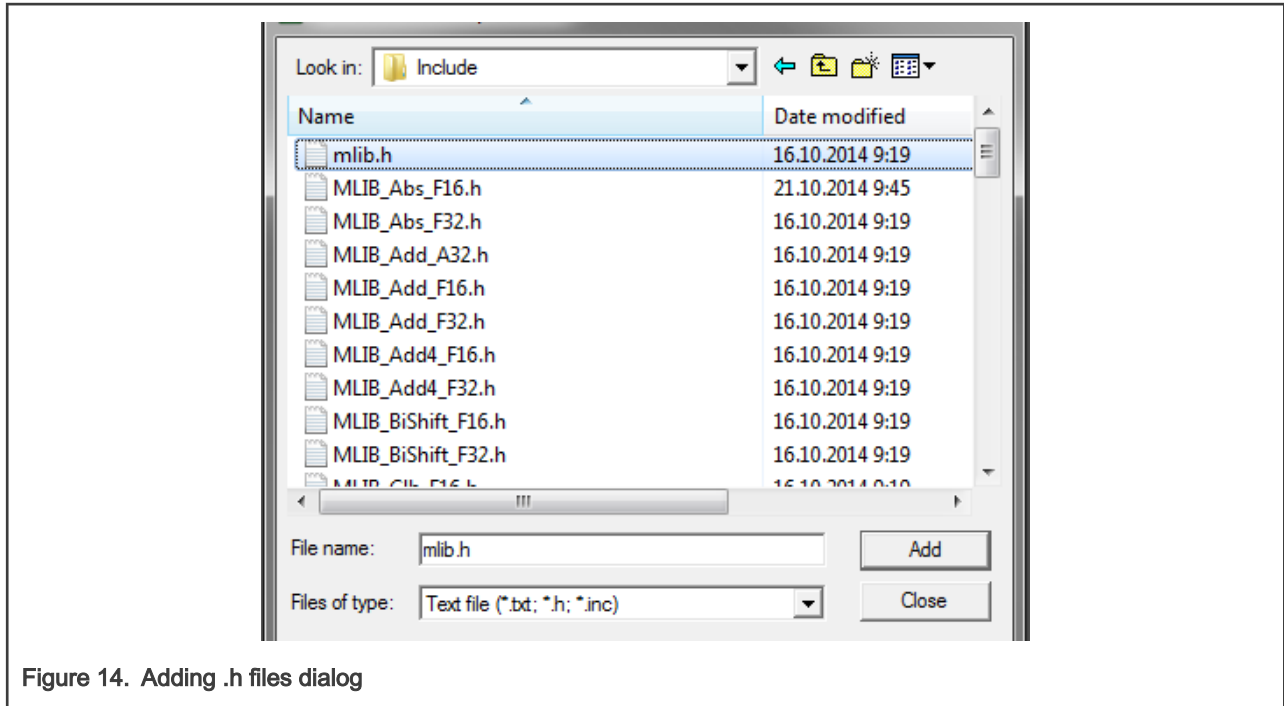

Figure 14. Adding .h files dialog
4. Navigate into the library installation folder C:\NXP\RTCESL\CM7\_RTCESL\_4.7\_KEIL\MLIB\Include, and select the *mlib.h* file. If the file does not appear, set the Files of type filter to Text file. Click Add. See Figure 14.